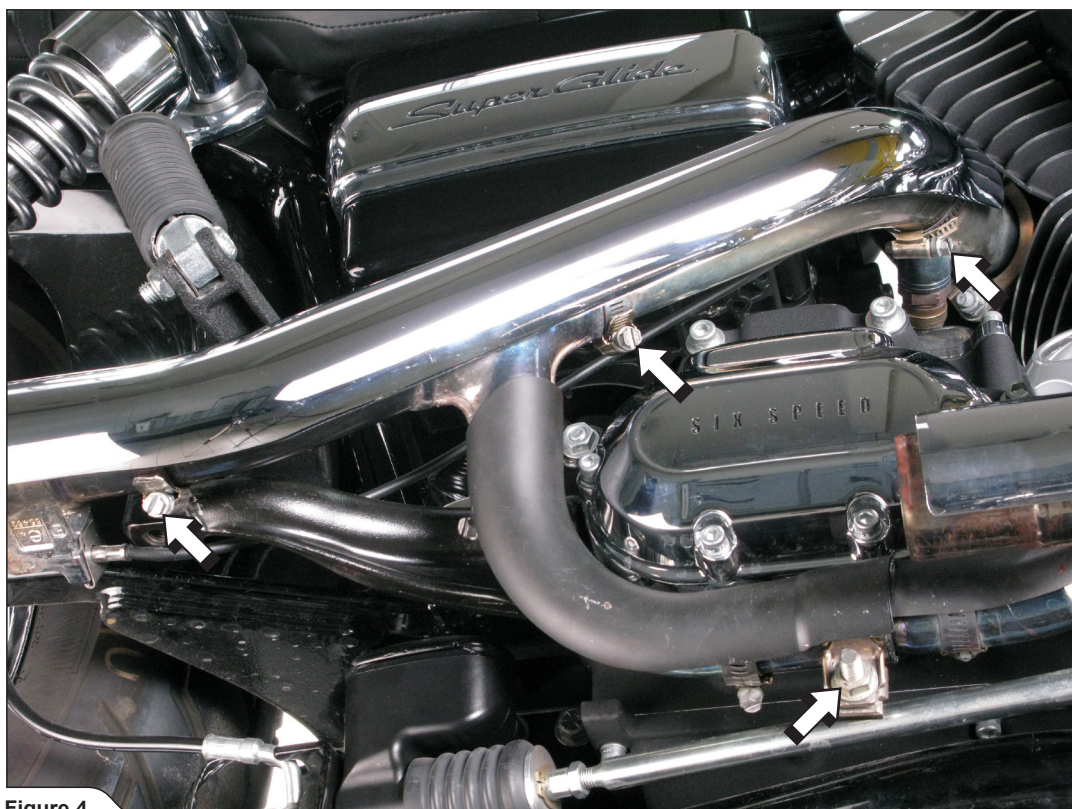

Figure 4
4. Unscrew three marked tape clamps, carefully remove rear header's heat shield and loosen headers' connection clamp (Figure 4).